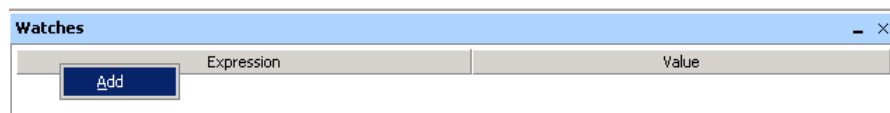

Figure 33. The Watches window.
2. Right-click on the gray bar, as illustrated in Figure 33, and click **Add**.